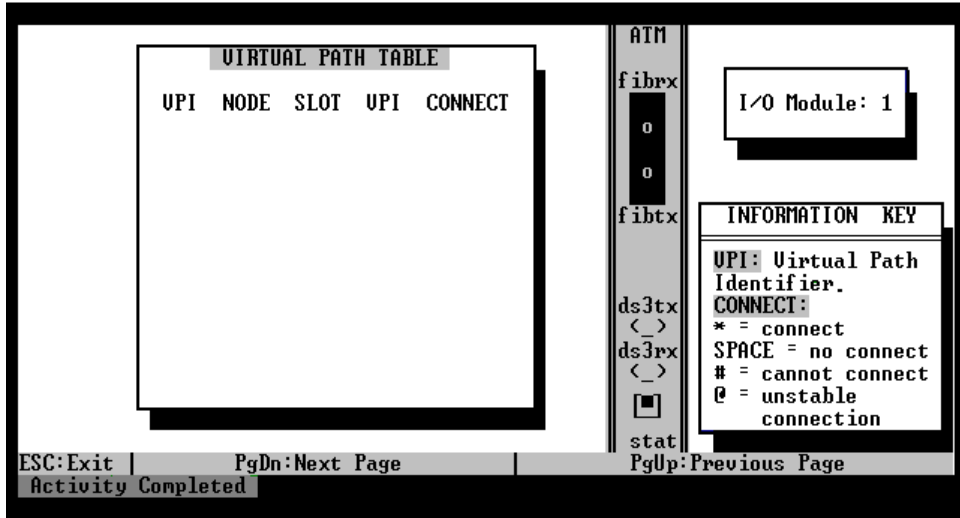

Figure 3-17. Virtual Path Table
- Choose Virtual Path Entry View from the secondary legend. A screen similar to Figure 3-17 is displayed.